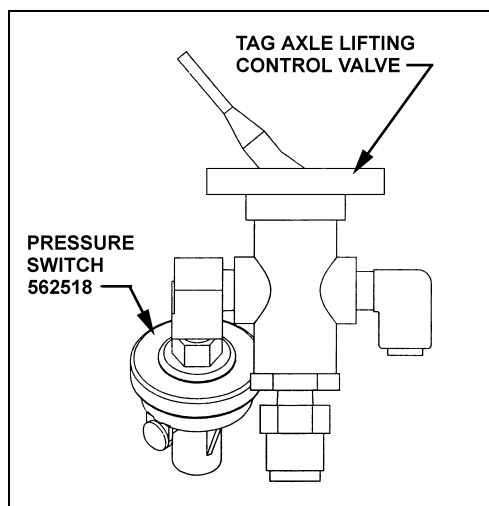

FIGURE 1 : PRESSURE SWITCH C/W VALVE
2. Lift mounting plate together with valve assembly in order to reach pressure switch. Separate connecting wires from pressure switch terminals and unscrew pressure switch. Clean pressure switch fitting orifice, apply Teflon sealant onto NPT threads and screw new pressure switch (Prévost #562518) in place (refer to figure 1). Reconnect new pressure switch terminals with connecting wires.